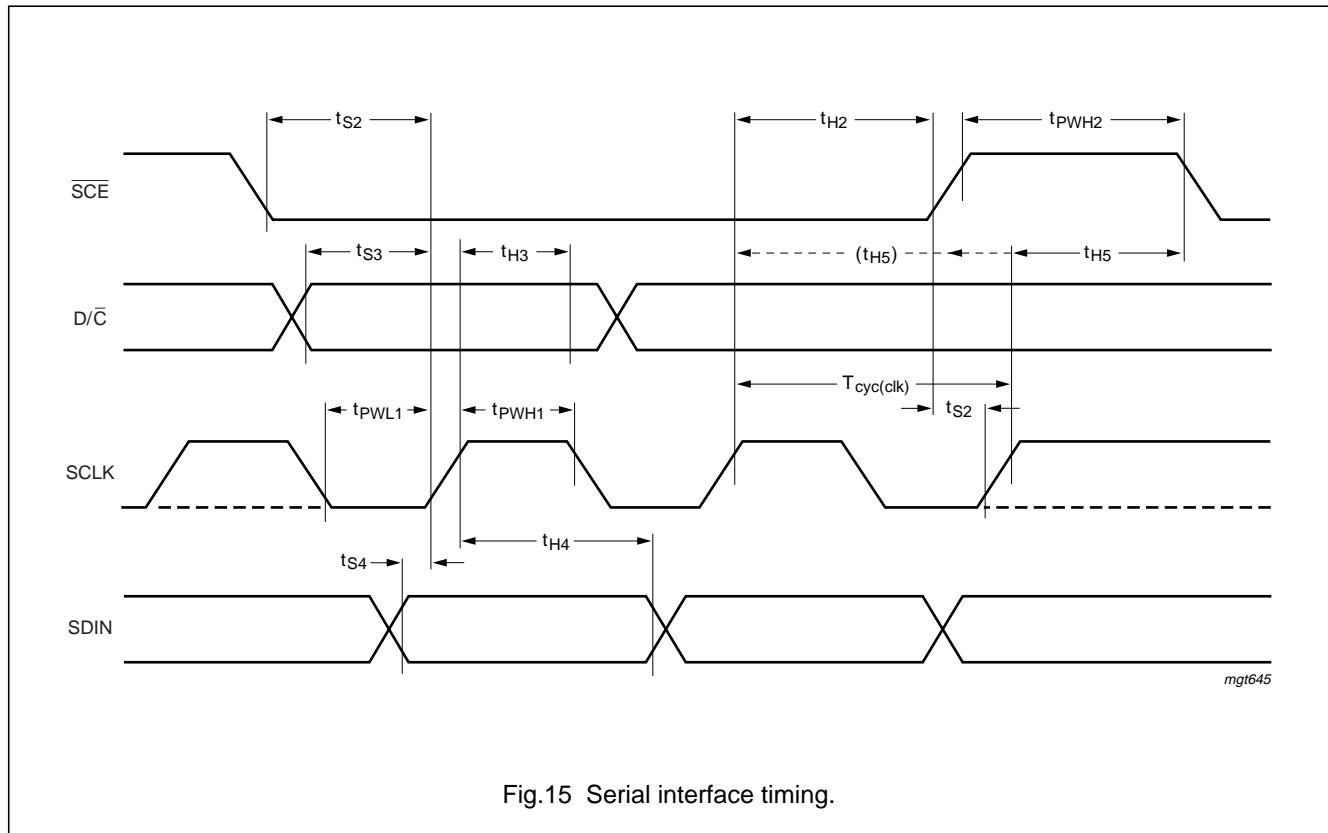

Fig.15 Serial interface timing.
Serial bus timing characteristics; see Fig.15
2. t_{H5} is the time from the previous SCLK positive edge (irrespective of the state of $\overline{\text{SCE}}$) to the negative edge of $\overline{\text{SCE}}$ (see Fig.15).